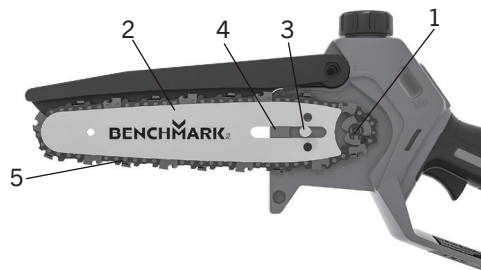

FIG. 6
4. Slide the saw chain (5) onto the guide bar (2) grooves (Fig.6).
5. To mount the guide bar, raise it to an angle of approx 45 degrees. Place the saw chain teeth around the sprocket (1) and mount the guide bar (2) so that the peg (3) on the tool fits into the slotted hole (4) on the guide bar (Fig.6).